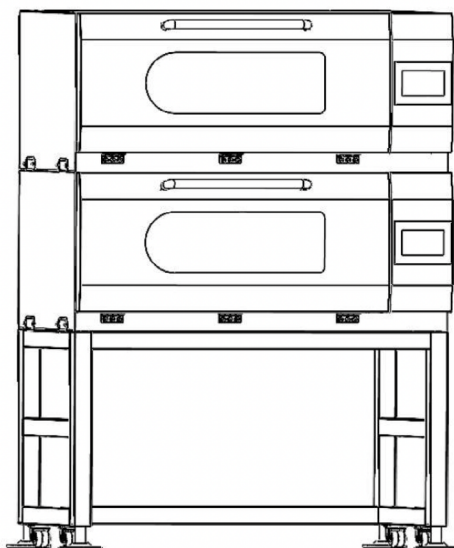

Fig. 6-6: Stacked Shakers
3. As shown (see Fig. 6-6 on p. 20), secure the bottom of the upper shaker to the bottom shaker (already fastened to the base) with the screws.